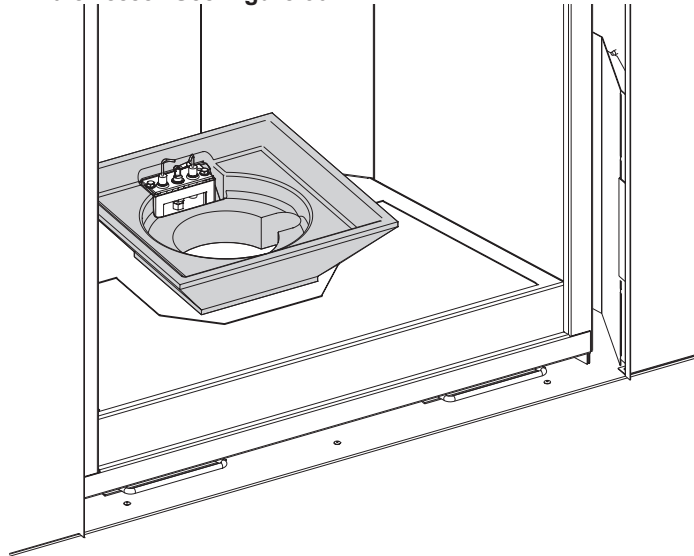

Figure 50
4. Place Decorative Media Vessel over pilot in center of firebox floor. Pilot will protrude through the rectangular opening in the vessel. See **Figure 50**.